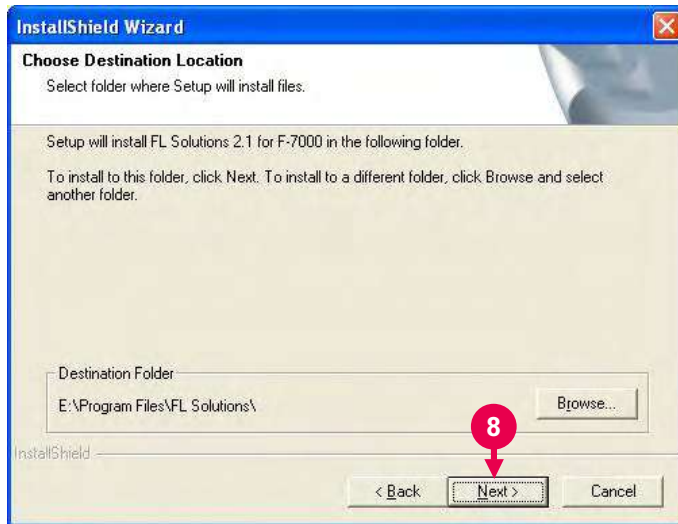

Fig. 1-8
- A window as shown in Fig. 1-8 will appear.